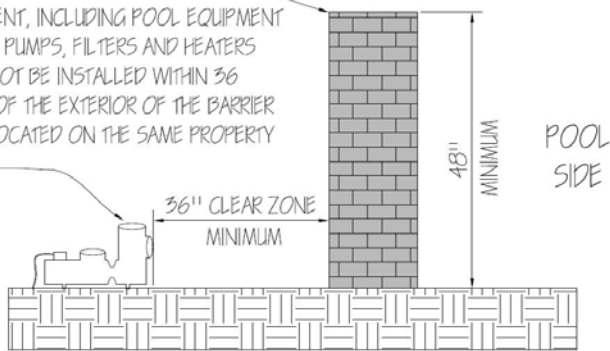

Figure 1
3. Solid barriers which do not have openings, such as a masonry or stone wall, shall not contain indentations or protrusions except for normal construction tolerances and tooled masonry joints. **See Figure 1**.
1. **EQUIPMENT CLEAR ZONE.** Equipment, including pool equipment such as pumps, filters and heaters shall not be installed within 36” of the exterior of the barrier when located on the same property. **SEE FIGURE 1**